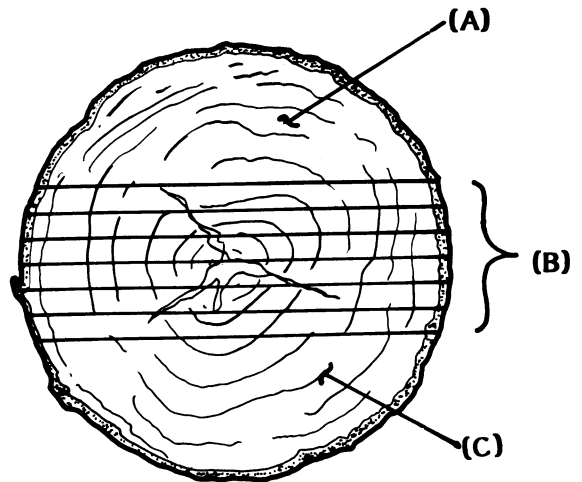

FIGURE 1
We have found commercial quartersawing of logs to be simple and fast on the Wood-Mizer®. Judgement as to where the first cut should be made depends on the shape of the log (oval, square, or round) and as such is arbitrary. Seeing that this method results in the best quality lumber, we felt you would be interested in the approach we use. Referring to the sketches below, **Figure 1** shows an end view of a log we will say is 17 inches in diameter. The first cut is made 11½ inches above the bed. The top cant (A) is laid to the side and six cuts of one inch (B) are made and those boards laid aside. The remaining cant (C) is rotated 90° (See **Figure 2**) and boards are cut starting 13 inches from the bed down to 3 inches (boards D). These boards are acceptable as commercial grade quartersawn lumber. The two boards above and below are plain sawed. The boards (D) are then placed vertical and edged. Cant (A) is processed in like manner. Boards (B) are then mounted vertically, sliced through the center (**Figure 3**), and edged (**Figure 4**). Using this approach, 60 to 70 percent of a good log can be converted into the most valuable of lumber rapidly and effectively.